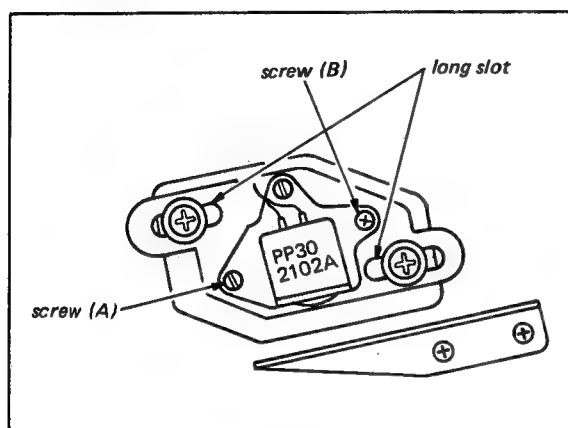

Fig. 7-14 Audio/CTL head (1)
2. Remove the screws A and B in Fig. 7-14. Do not loosen the screws in the long slots.
5. Install the head mounting plate assembly using the original screws A and B in Fig. 7-14.
13. Play back video alignment tape. Loosen the screws in the long slots shown in Fig. 7-14.